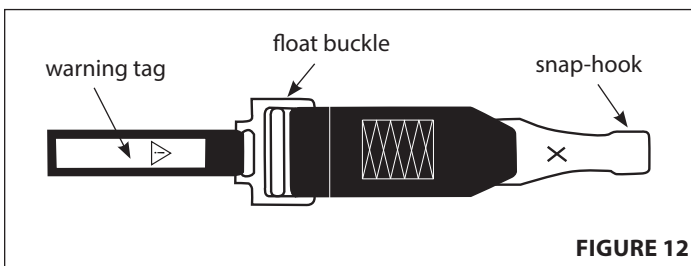

FIGURE 12
1. Hold float buckle so warning tag faces upward. **SEE FIGURE 12**